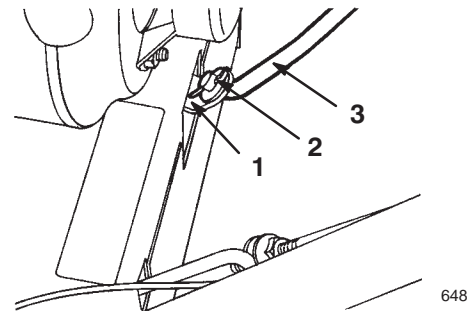

Figure 5
1. Pull the speed selector arm (Fig. 5) to the most outward position.
3. Install the speed selector rod into the selector arm, add a flat washer on the selector rod, and secure it with a cotter pin (Fig. 5).